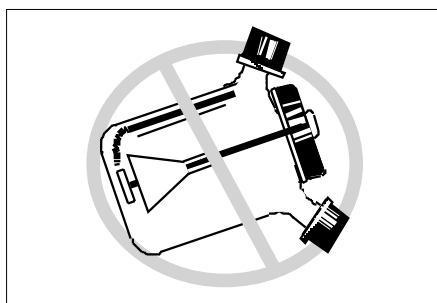

Figure 27. Place spinner flask in an upright position when autoclaving the vessel. Do not lay on its side.
1. After assembly, place the vessel into an autoclave. We recommend that the vessels are autoclaved in an upright position. (Fig. 27).